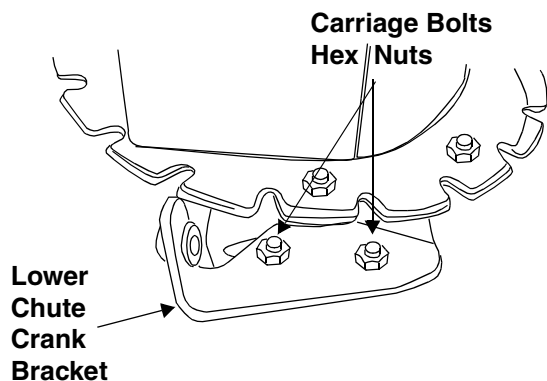

Figure 9
1. Loosen the two hex nuts which secure the lower chute crank bracket (see Figure 9) to the snow thrower housing.
5. Adjust the chute crank support bracket (see Figure 9) so that the spiral on the chute crank fully engages the teeth on the chute assembly. Tighten the nuts on the chute crank bracket securely. Tighten the hex nuts on the eyebolt.